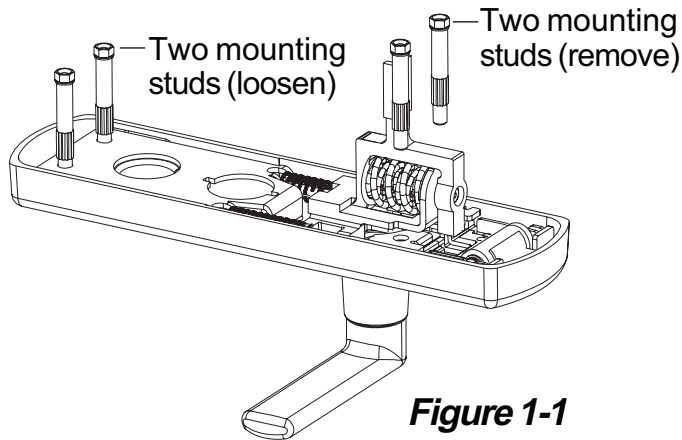

Figure 1-1
1.1. Using a 5/16" wrench, remove two mounting studs nearest the lever and loosen the other two mounting studs (Figure 1-1).
1.6. Secure four mounting studs (Figure 1-1).